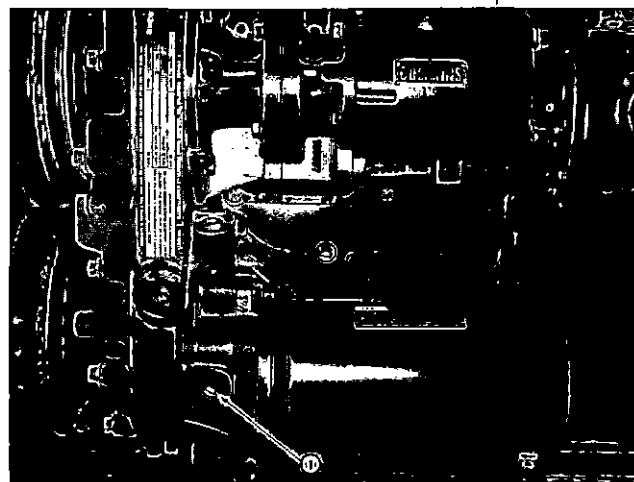

Fig. 2-1, N11963. Lubricating system priming point
2. Remove drain plug from base of lubricating oil filter housing (Fig. 2-1) or filter can to prime system.